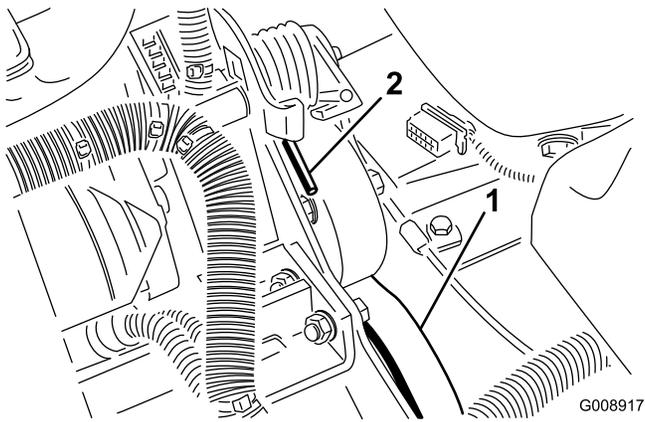

Figure 57
2. Push down and forward on the spring end (Figure 57) to unhook it from the bracket and release tension on the spring.